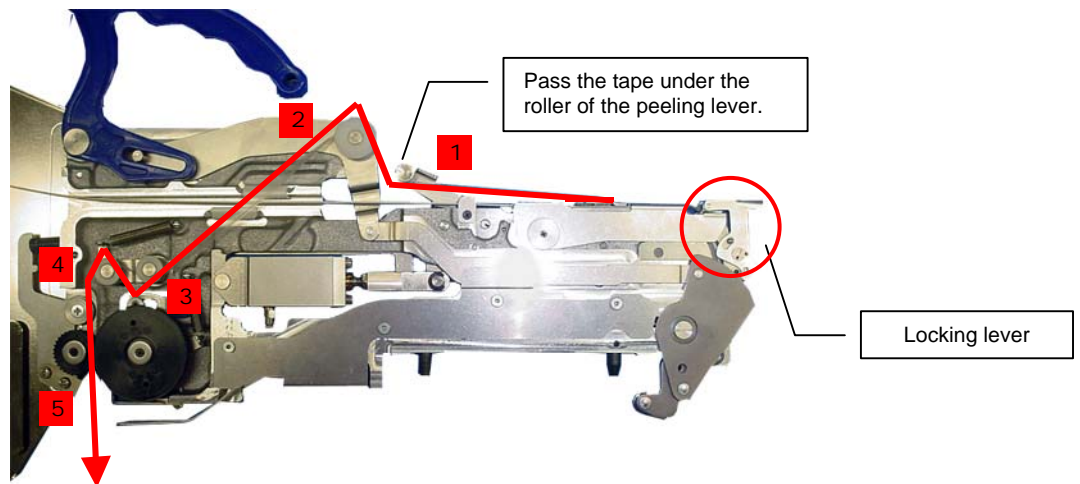

Fig 3
3. Feed the top tape through the tape guide in order of 1 to 5 described in Fig.3.
4. Push down the tape guide and get the locking lever back.(Fig 3) When lowering the tape guide, set the carrier tape so that the gear can engage with the holes in the carrier tape.